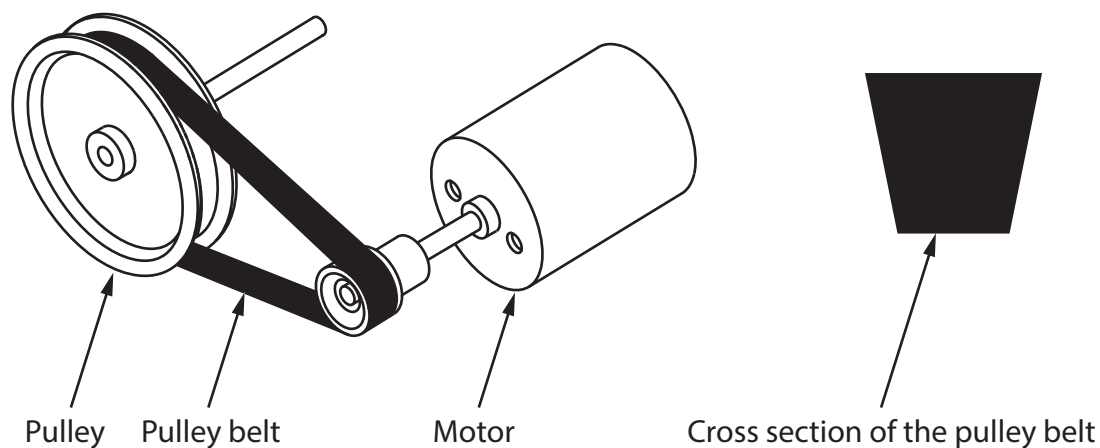

Figure 5
- 3 Figure 5 shows a pulley and pulley belt, a motor, and the cross section of the pulley belt used in a model boat drive system.
- (a) Name the type of pulley belt shown in the cross section in Figure 5.